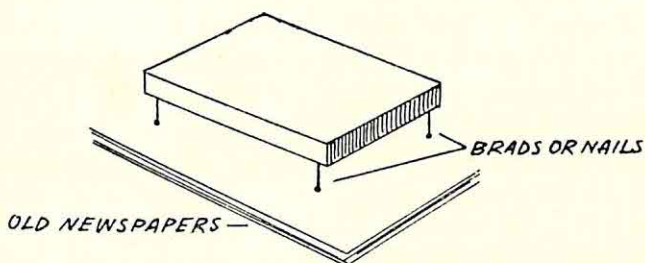

Figure 45
3. Painting the bottom of a piece of apparatus is always difficult. Begin by nailing four panel pins in the bottom. *Now paint the bottom first.* Stand the apparatus upright on the panel pins (on a piece of newspaper) where it will dry quickly, and paint all the upper surface (see Figure 45). *The bottom should be finished first.*